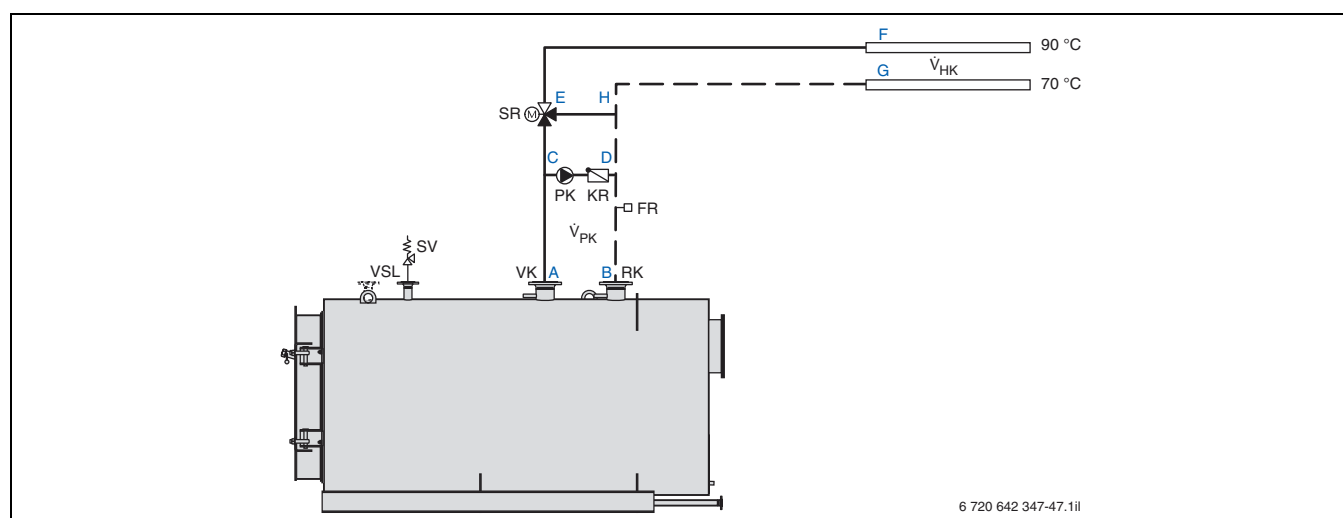

Fig. 56 Example of a hydraulic circuit for a single boiler system with boiler circuit pump in the bypass for Logano S825L/L LN or Logano plus SB825L/L LN
- All individual pressure drop levels in the boiler circuit (path: A–C–D–B, → Fig. 56)
- $\dot{V}_{PK} = 43000 \text{ l/h}$  (path: C–D, → Fig. 56)
(paths: C–F, D–G und E–H, → Fig. 56)
(paths: A–C und B–D, → Fig. 56)